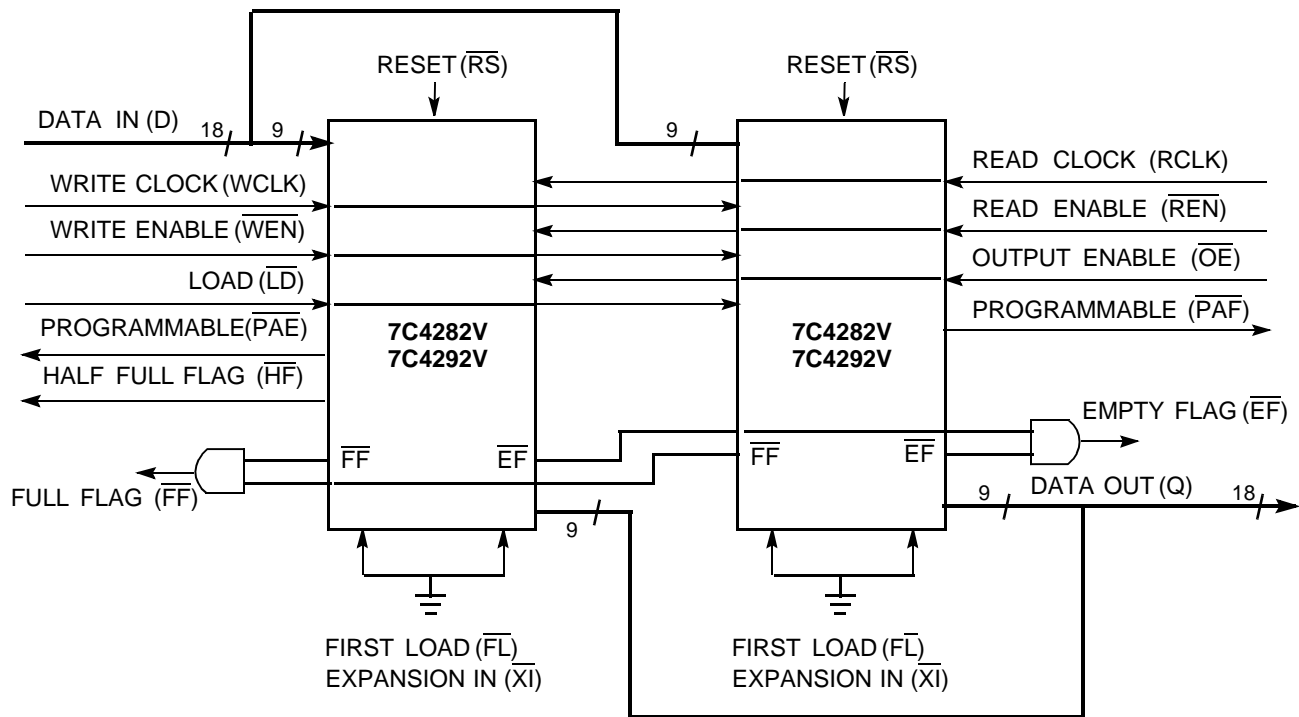

Figure 2. Block Diagram of 64K x 9/128K x 9 Low-Voltage Deep Sync FIFO Memory Used in a Width-Expansion Configuration
Word width may be increased simply by connecting the corresponding input control signals of multiple devices. A composite flag should be created for each of the end-point status flags (EF and FF). The partial status flags (PAE and PAF) can be detected from any one device. *Figure 2* demonstrates a 18-bit word width by using two CY7C4282V/92V. Any word width can be attained by adding additional CY7C4282V/92V.
When the CY7C4282V/92V is in a Width Expansion Configuration, the Read Enable (REN) control input can be grounded (see *Figure 2*). In this configuration, the Load (LD) pin is set to LOW at Reset so that the pin operates as a control to load and read the programmable flag offsets.